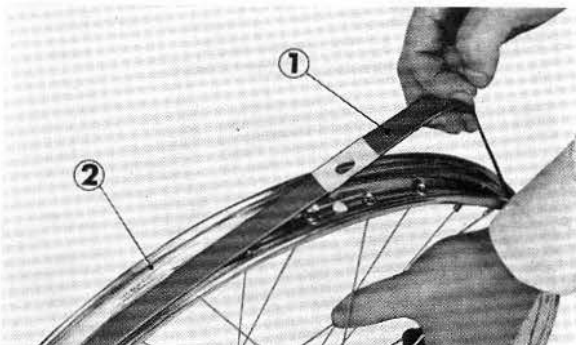

Fig. 4-5 ① Tire ② Rim
3. Assemble the tire flap over the spoke nipple. (Fig. 4-5)